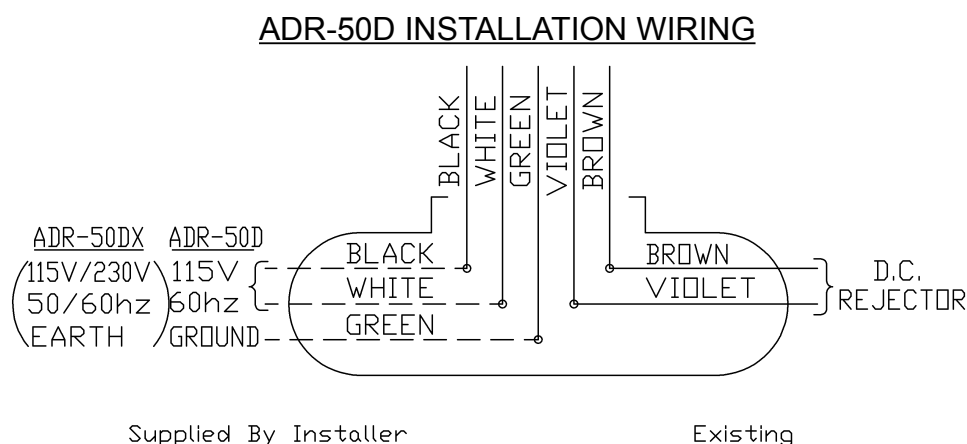

FIGURE 2.2
2.4.2 ELECTRICAL INSTALLATION: Bring a power line with ground into the conduit junction box at the lower end of the pipe. Wire as shown in figure 2.2. Connect the black wire (L-1) to the black wire, the white wire (L-2) to the white wire and the green wire (Ground) to green. Connect the wires from the rejector (violet and brown) to the corresponding wires in the conduit box.